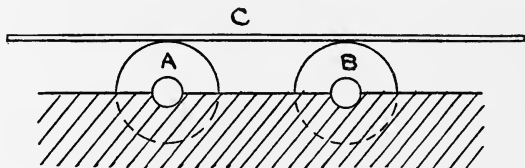

Fig. 1.
1. *A* and *B* are two horizontal cylinders (see Fig. 1) turning freely in fixed bearings, *A* making one revolution per second and *B* one revolution in two seconds. The mass of each cylinder is 40 lbs., the radius is 6 inches and the radius of gyration is 4 inches. A plank *C* weighing 80 lbs. is then gently laid across the cylinders. Calculate the velocity given to the plank when the velocities have once again become steady. Taking the coefficient of friction between plank and cylinder as $\frac{1}{2}$, determine how long this equalizing process takes, assuming that the weight supported on each cylinder is 40 lbs.